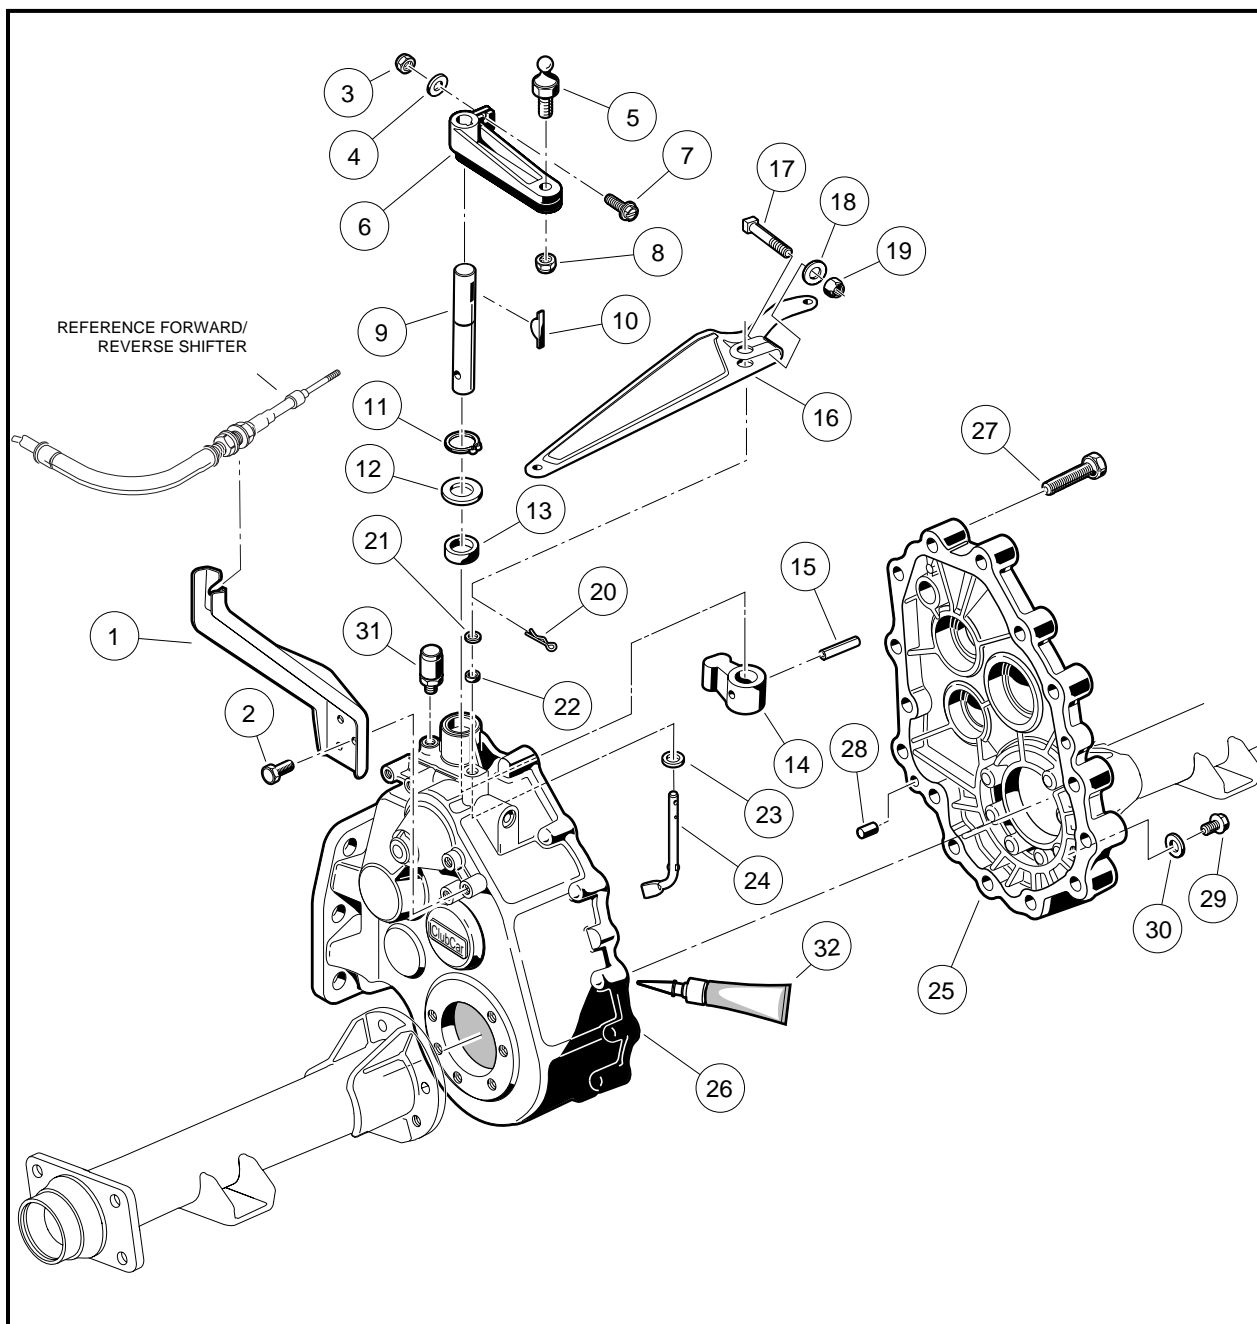

Figure 16-35 Transaxle Gear Casing and Brackets
20. Remove screws (2) securing the transmission shift cable bracket (1) to transaxle (**Figure 16-35, Page 16-14**). See following NOTE.
5. Remove the fifteen bolts (27) that hold the transaxle housing together (**Figure 16-35, Page 16-14**).
- 13.1. Loosen nut (3) and bolt (7) on transmission shifter lever and remove lever from shaft (**Figure 16-35, Page 16-14**).
- 13.2. Remove woodruff key (10) from shaft (**Figure 16-35, Page 16-14**).
- 13.3. Use snap ring pliers (.047 tip) to remove the retaining ring (11) on the shifter shaft (**Figure 16-35, Page 16-14**).
- 13.4. Remove flat washer (12) from the shifter shaft on the outside of the case as shown, then remove the shifter shaft by pushing it through the case toward the interior of transaxle (**Figure 16-35, Page 16-14**).
- 13.5. Use a seal puller to remove the shifter shaft oil seal (13) from the case (**Figure 16-35, Page 16-14**).
14. Remove the breather (31) from the case (**Figure 16-35, Page 16-14**).
- 15.1. Remove the cotter pin (20) and flat washer (21) from the pivot arm (24) (**Figure 16-35, Page 16-14**).
- 15.3. Use a small chisel or similar pointed instrument to pry the pivot arm oil seal (22) (**Figure 16-35, Page 16-14**) out of the case (**Figure 16-41, Page 16-17**).